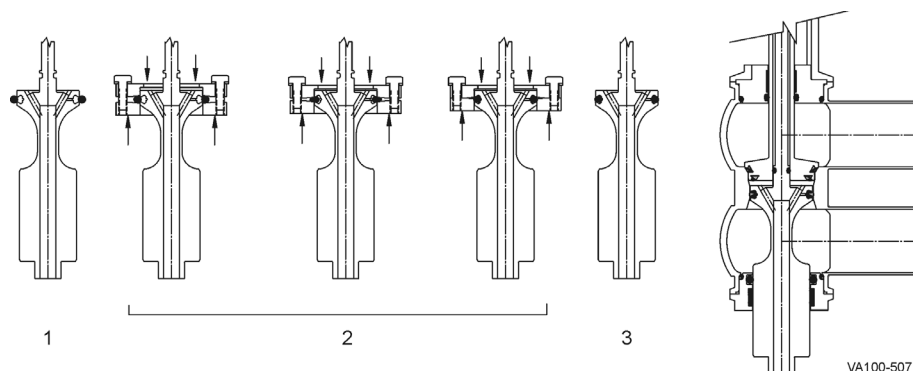

Figure 12 - Radial Seal Installation
5. Place the assembly tool over the stem and extrude the o-ring seal into the groove by evenly tightening the cap screws on the installation tool. See Figure 12. For a list of installation tools, see page 33.